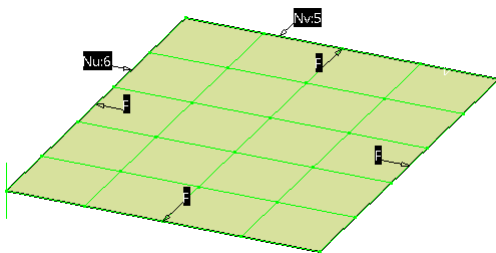
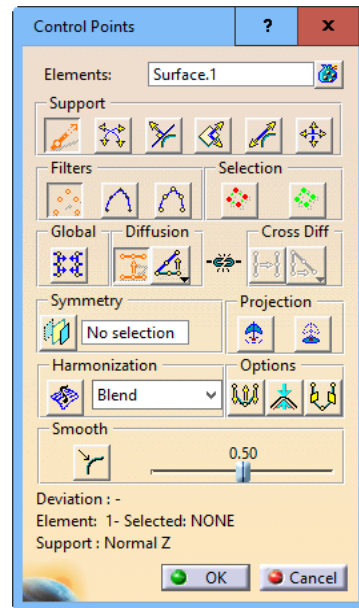

Figure 18-58 The surface after choosing the Control Points tool
Figure 18-59 The Control Points dialog box
- Select the planar patch on the surface and then choose the **Control Points** tool from the **Shape Modification** toolbar; the surface is displayed, as shown in Figure 18-58. Also, the **Control Points** dialog box is displayed, as shown in Figure 18-59.